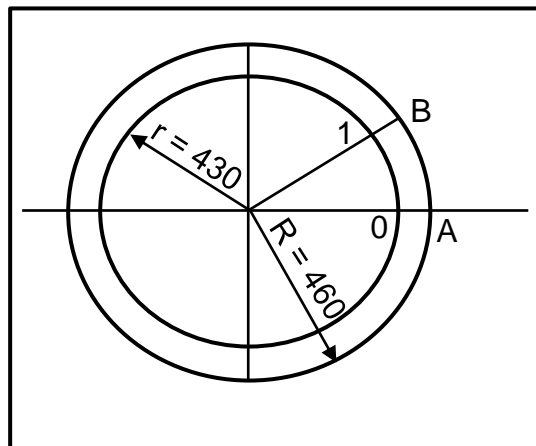

FIGURE 11.3
- 11.3 FIGURE 11.3 below shows the top view of a truncated cone with slight taper (cone frustum). Both **A–B** and **0–1** represent one twelfth of the circle circumference. Answer the questions that follow.